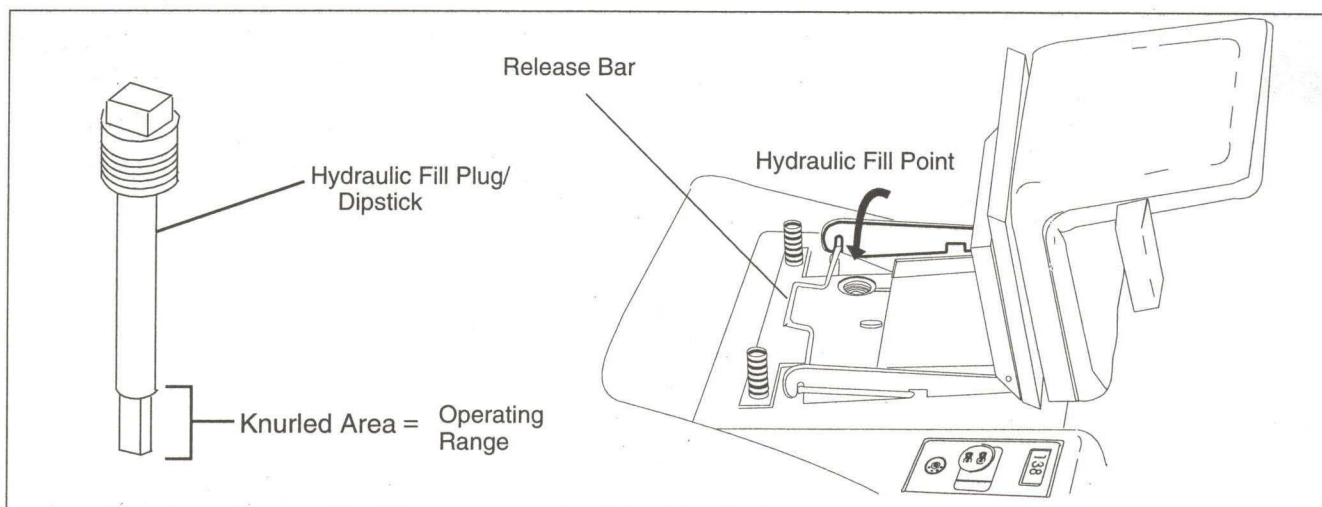

Figure 14
1. Flip seat up. (See Figure 14)